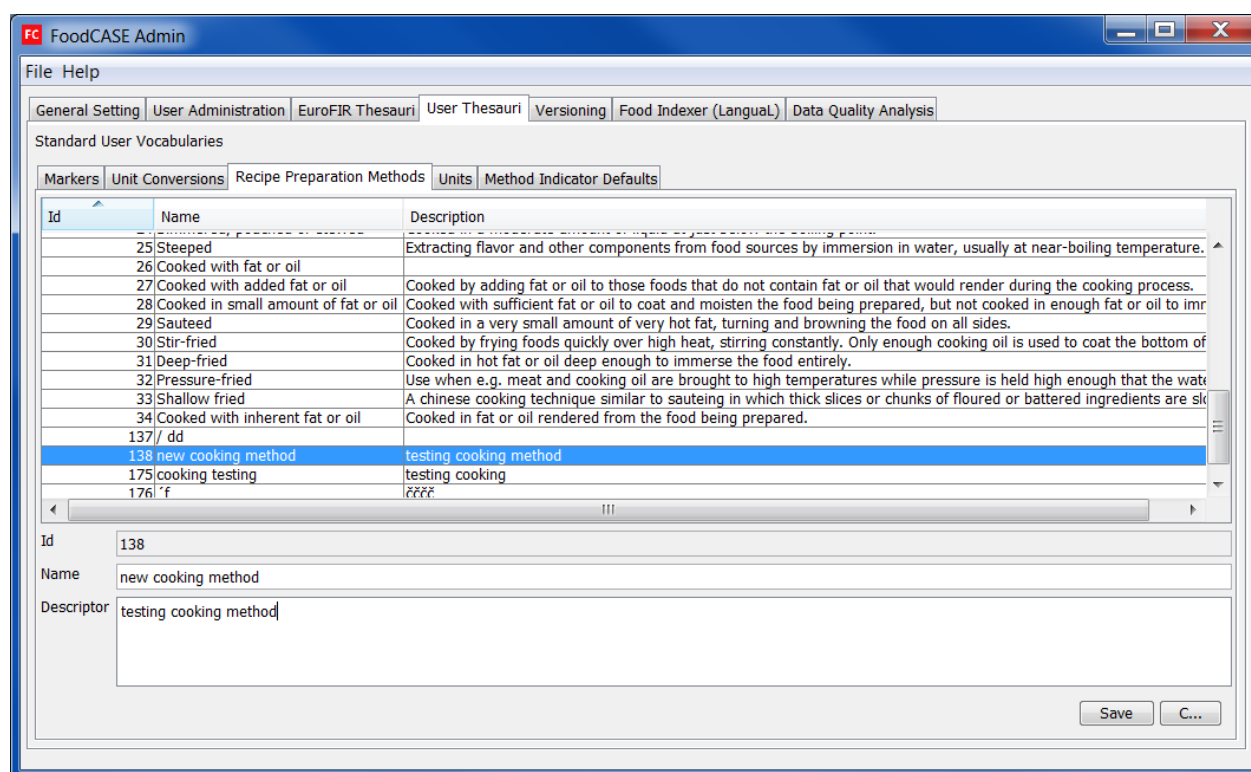

Figure 6.4.3.2
3. Change the cooking method (Figure 6.4.3.2)